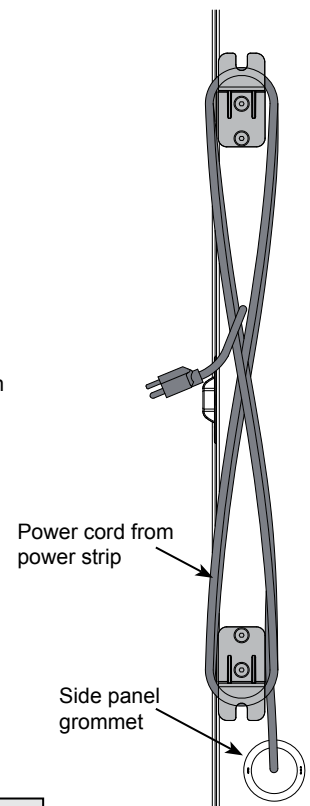

Figure 2B
3. Route the power cord through the side grommet. **Figure 2B**.